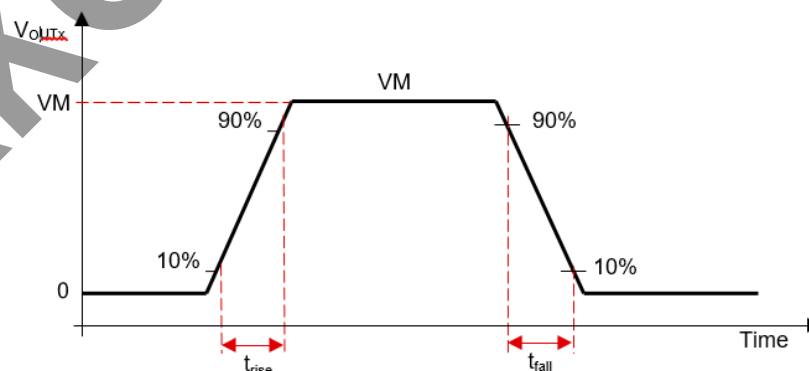

Figure 3-18 Slew Rate Timings
The slew rate of each half-bridge can be adjusted by HBx_SR bits in Slew Rate control register (SR_CTRL_1 and SR_CTRL_2). Each half-bridge can be selected to a slew rate of 0.6V/μs or 2.5V/μs. The slew rate is calculated by the rise-time and fall-time of the voltage on OUTx pin as shown in **Figure 3-18**. The slew rate (SR) is calculate as shown in **Figure 3-18**.